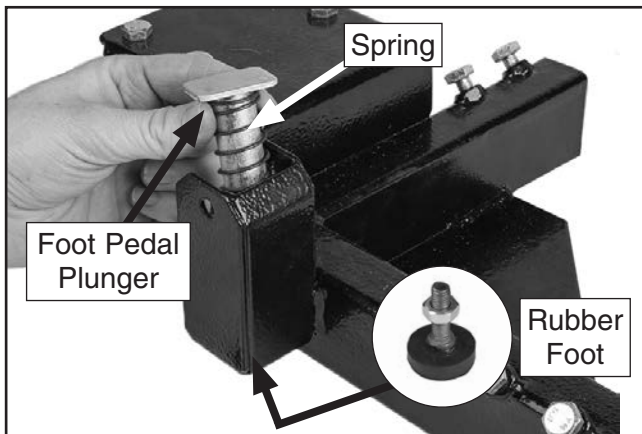

Figure 5. Installing foot pedal plunger and spring.
2. Install foot pedal plunger and spring into each corner bracket (see **Figure 5**), and attach a rubber foot (with M10-1.5 hex nut) to the bottom of each foot pedal plunger.